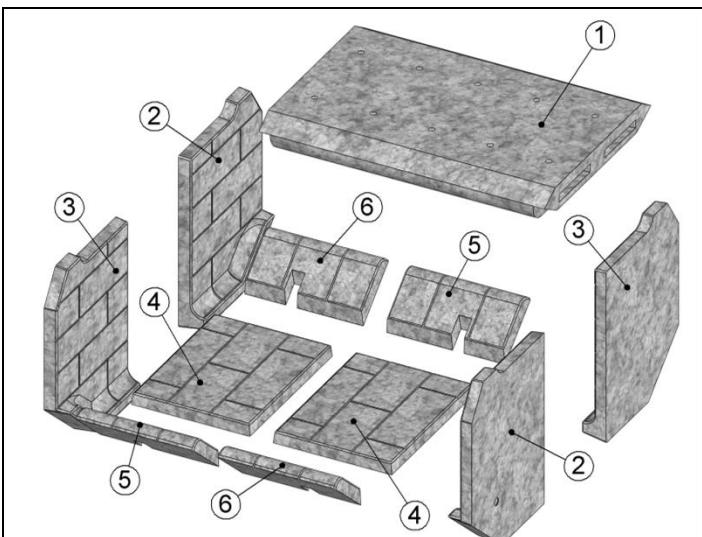

Figure 14 Refractory Bricks Installation
The refractory bricks for the FOCUS ST fireplace are placed in the fireplace at the factory. If, for any reason, they should need to be replaced, the following order should be observed (see Figure 14). To remove any of the refractory bricks, just follow the installation procedure in the reverse sequence. Refer to Figure 14 to adequately identify which refractory brick is the right and which is the left at each step of the installation.
1. Insert the baffle (1) into the firebox. The baffle is quite heavy and must be lifted to the top of the firebox. A small jack or 2"x4" lengths can be used to hold it at the top of the firebox temporarily. Make sure to orient the baffle correctly. The side with the most holes should point towards the floor of the fireplace.
2. While supporting the baffle as high as it will go, place the left and right side refractory bricks (both right (2) and both left (3)) as shown in Figure 14.
4. Install both bottom refractory bricks (both (4)).
5. Install the front refractory bricks (both right (6) and both left (5) as shown in Figure 14).
4. The right side refractory bricks (bricks (2) in Figure 14) already have a hole to allow the gas line through. You only need to clean out the gray sealant out of the hole on the selected installation side to be able to pass the gas line through and into the firebox.